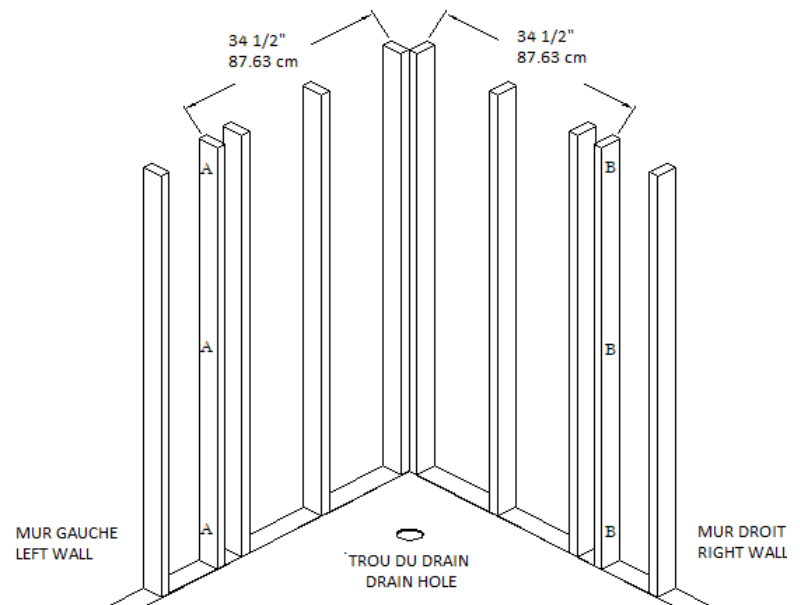

Figure 1
5. In order to secure your shower to the walls, you must install 2 two-by-fours (A-B) vertically, as shown on figure 1. Make sure they are leveled. The two-by-fours must be placed where the shower's outer lips touch the wall, for a REALITY shower stall, the center of the two-by-fours will be at 34 1/2" from the corner (see figure 1).